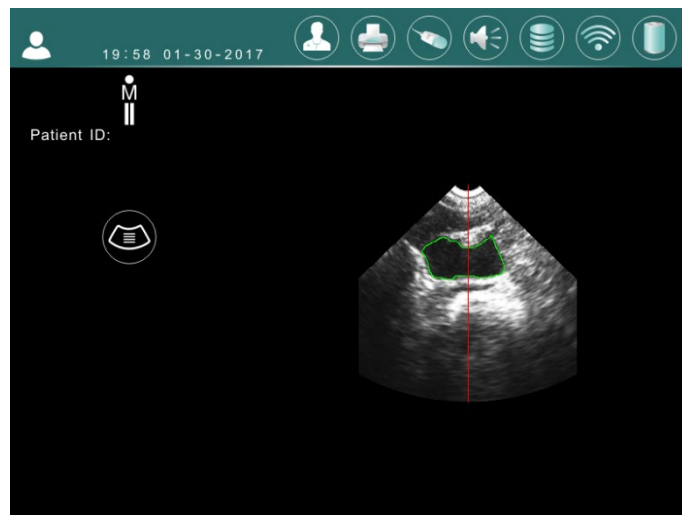
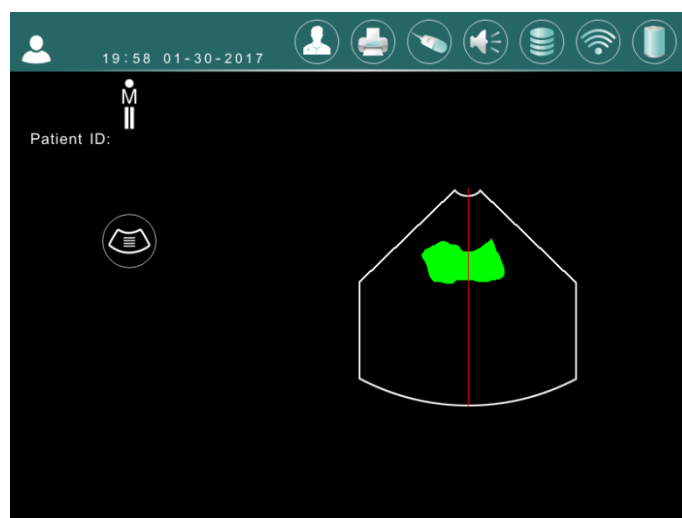

Figure 7-6 The pre-scan interface of expert mode
Figure 7-7 The pre-scan interface --simple mode
7.5.1 The pre-scan interface of expert mode is shown in figure 7-6, and the pre-scan interface in simple mode is shown in figure 7-7.
7.5.2 Pre-scan status of expert mode will show the real-time display of ultrasonic scanning images; In simple mode, only the identified liquid dark area is shown, see figure 7-7 yellow area.